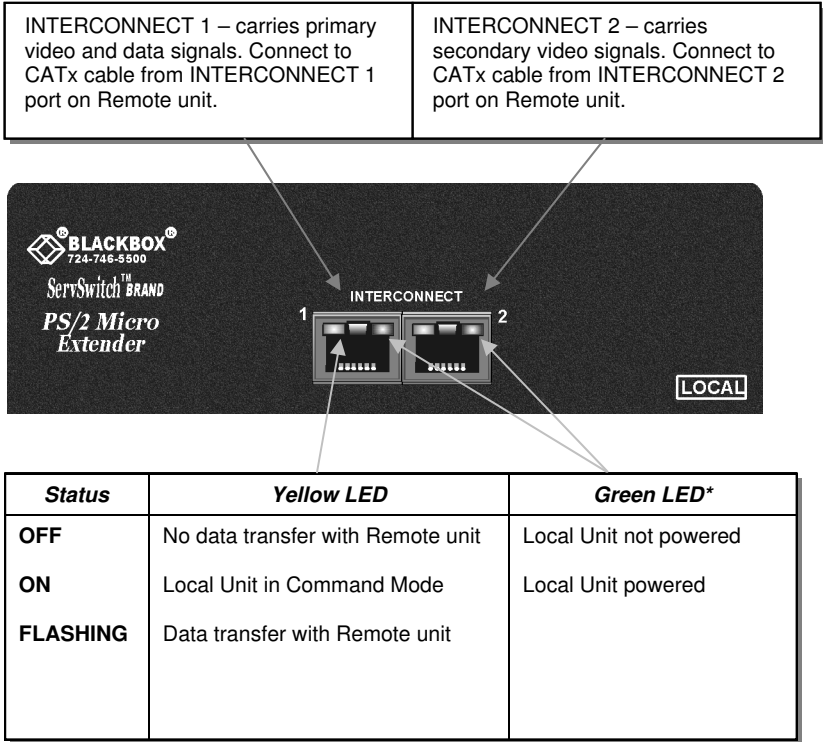

Figure 5 Local Unit – front view
6. Connect the CATx cables from the Remote unit to the corresponding INTERCONNECT ports (1&2) on the Local unit (see Figure 5).
- Illuminates the yellow Interconnect 1 LED continuously (see Figure 5).